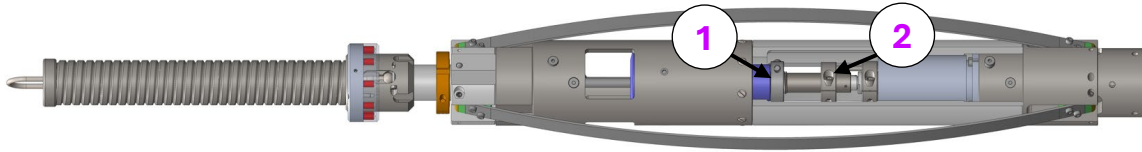

Figure 30. Anti-torque assembly. (1) Cablehead retaining nut. (2) Slip ring clamp collar.
- 5) Insert the cablehead into the top of the anti-torque. As the end of the cablehead comes through the bearing section, slide the threaded clamp collar over the end of the connector housing, item 1 in Figure 30. Align and seat the electrical connector with the mating receptacle on the slip ring.
- 7) Tighten the pinch bolt on the slip ring clamp collar, item 2 in Figure 30.